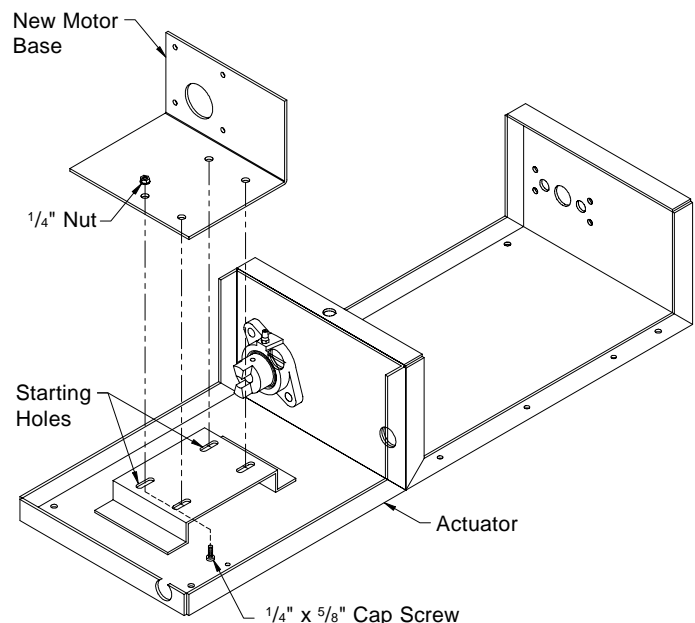

Figure 1
- 4) Set new motor base in actuator. Starting with the holes shown, **See Figure 1**, insert (2) 1/4 - 20 x 5/8" bolts (provided) so that the threaded part is visible. Moving clockwise, insert the remaining (2) bolts. Attach 1/4 - 20 nut on each bolt. **DO NOT TIGHTEN** at this time.
- 5) Insert the rubber spider into the motor coupler. Attach motor onto motor base, making sure motor shaft is closest to base, using the (4) nuts removed in Step 3.